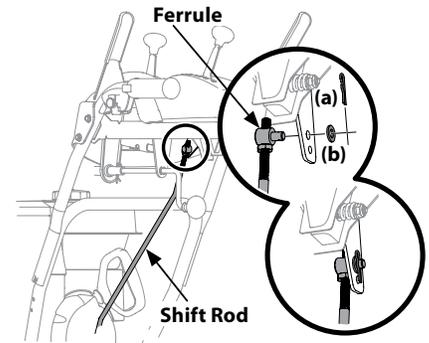

Figure 2-32
8. Remove cotter pin (a) and washer (b) from ferrule on end of shift rod. See Figure 2-32 inset.
10. Insert ferrule into top hole of shift lever and secure with cotter pin (a) and washer (b) removed in Step 8. See Figure 2-32. Ferrule may need to be adjusted up or down.